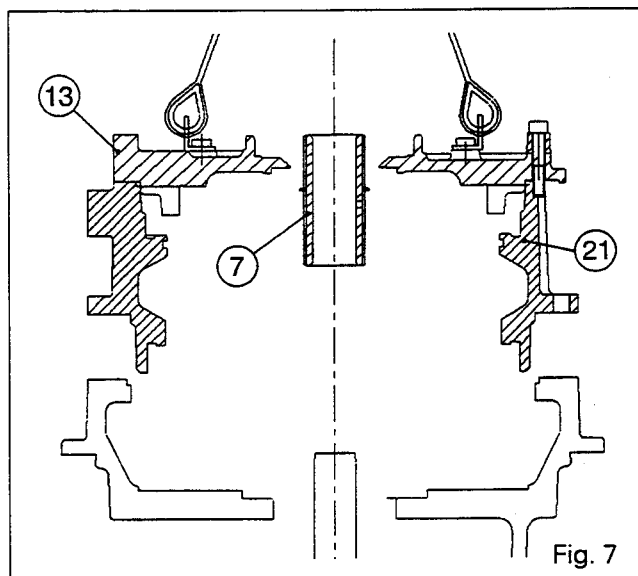
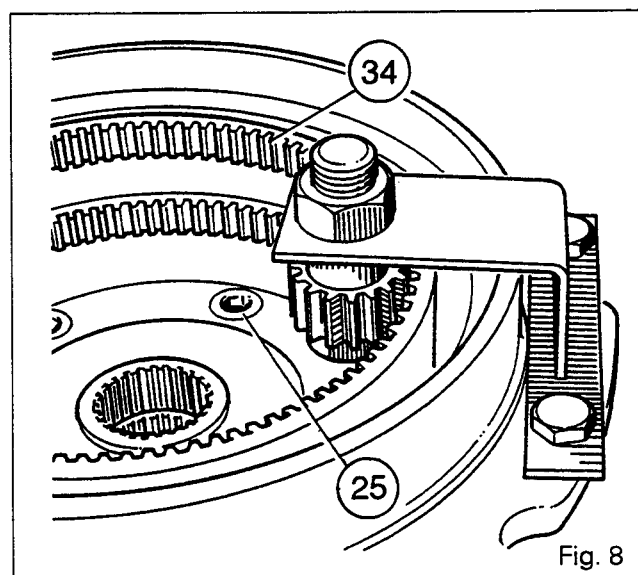

Fig. 7
Fig. 8
6. Using two lugs or two rings, manufactured locally, remove the assembly comprising the shaft (7), cover (13) and housing (21) (Fig. 7).
7. Recover the thrust washer (70). Compress the spring washer (77) by pressing on the ring gear (31). Remove the circlip (69) and withdraw the shaft (7).
8. Remove the piston (37) from the housing (21).
9. Using tool 3376888M1, immobilise the ring gear (34). Remove the bolts (25) (Fig. 8).
10. Withdraw the assembly comprising the secondary ring gear (34), ring gear carrier (1), ring gear (31) and bearing (27).
11. Separate the ring gear (34) from the ring gear carrier (1). Remove the spring washer (77) and the bearing (27).
12. Remove the housing (21) and the piston (22).
13. Remove the clutch driving plate (3), brake disc (15), clutch driven plate (2) and pressure plate (17), hub (5), springs (20) and backing plate (16).
14. Extract the Belleville washer (4) and the clutch housing (14).
58. Refit the bearing (27) on the ring gear (31), and install it in the ring gear carrier (1) with the spring washer (77). Fit ring gear (34). Tighten the bolts (33) to a torque of 12 to 16 Nm, after coating them with Loctite 241.
Fit the assembled ring gears on the primary shaft. Immobilise ring gear (34) as shown in Fig. 8. Tighten the bolts (25) to a torque of 31 to 35 Nm, after applying Loctite 241.
59. Compress the spring washer (77) by pressing on ring gear (31). Fit the circlip (69) and the thrust washer (70), coated with miscible grease.
60. Lubricate and fit the seals (35) and (36). Position the piston in the housing and fit it by knocking it gradually around the edge with a plastic-tipped mallet. Hold the piston with a suitable fixture. Check for leaks on seals, as for the front piston.